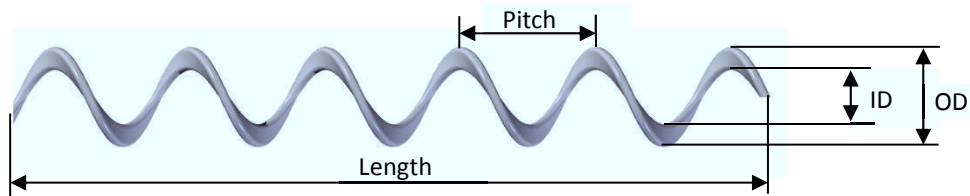

Figure 2: Auger characteristics
An auger, also known as a helicoil or spiral, is made of flat wire and is characterised by its outer diameter (OD), inner diameter (ID) and pitch (see Figure 2 below).